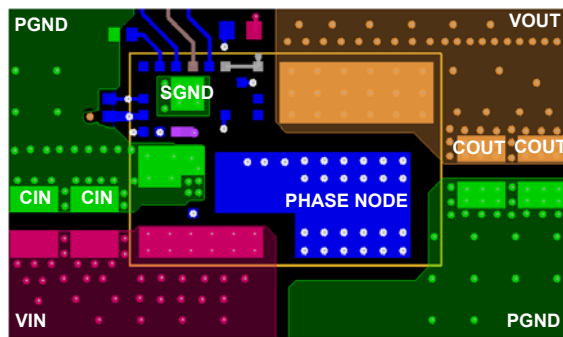
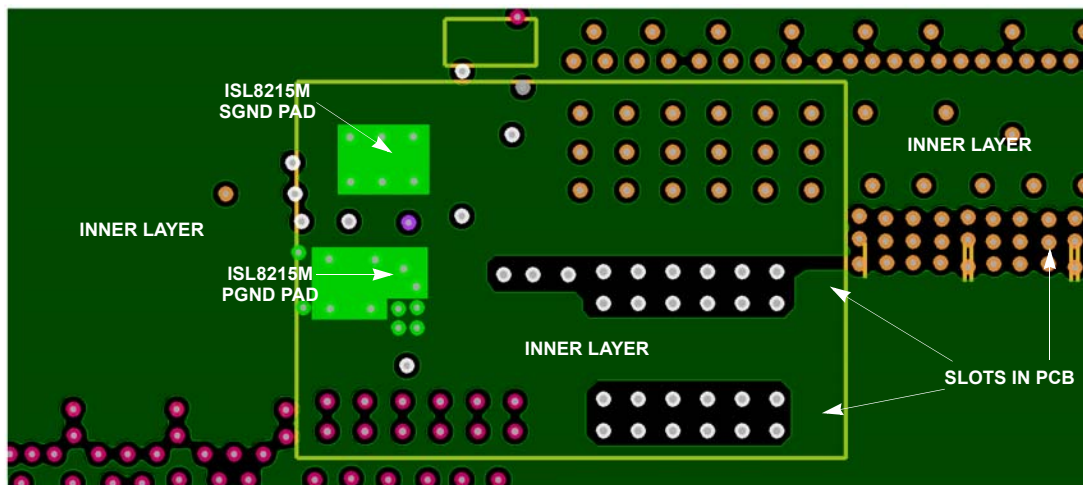

Figure 46. Layout Example - Top Layer
Figure 48. Layout Example - SGND is Connected to PGND Through Internal Layer
- (1) Place the input capacitors and high frequency decoupling ceramic capacitors between VIN and PGND, as close to the module as possible. The loop formed by the input capacitor, VIN pad, and PGND must be as small as possible to minimize the high frequency noise. The output capacitors should be placed close to the load. Use short, wide copper planes to connect the output capacitors to the load for avoiding any parasitic inductances and resistances. An illustrative layout example is shown in Figures 46 and 47.
- (2) VIN, VOUT, and PGND should use large copper planes to minimize conduction loss and thermal stress. Use enough vias to connect the power planes in different layers.
- (3) Use full ground planes in the internal layers (underneath the module) with shared SGND and PGND to simplify the layout design. It is recommended to use slots, as shown in Figure 48 on page 29 to ensure that the switching current avoids the SGND pad of the module. It is recommended to use as much GND plane as possible for the layer directly above the bottom layer (containing components like input caps, output caps, etc). Use the top and bottom layer to route EN, VCC, and PGOOD signals.
- (4) For a switching frequency of 300kHz, connect a 4.02Ω 1206 resistor and a 270pF 100V X7R 0603 capacitor in series from PH to VIN. De-rate the resistor size for switching frequencies higher than 300kHz. Calculate the power dissipated in resistor R5 (P_{cal}) by using the formula $C \cdot V^2 \cdot f$, where,